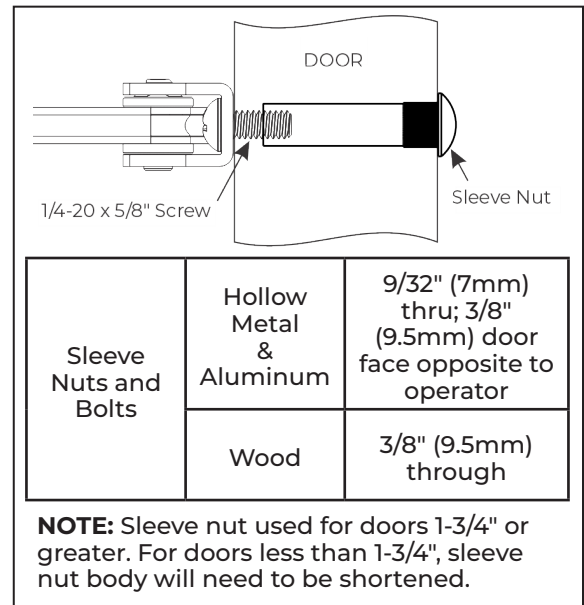

Fig. 5
- OR** Reference Fig. 5 and use 1/4-20 x 5/8" screws with sleeve nuts.
- For wood doors:** Reference Fig. 5 and use 1/4-20 x 5/8" screws with sleeve nuts.